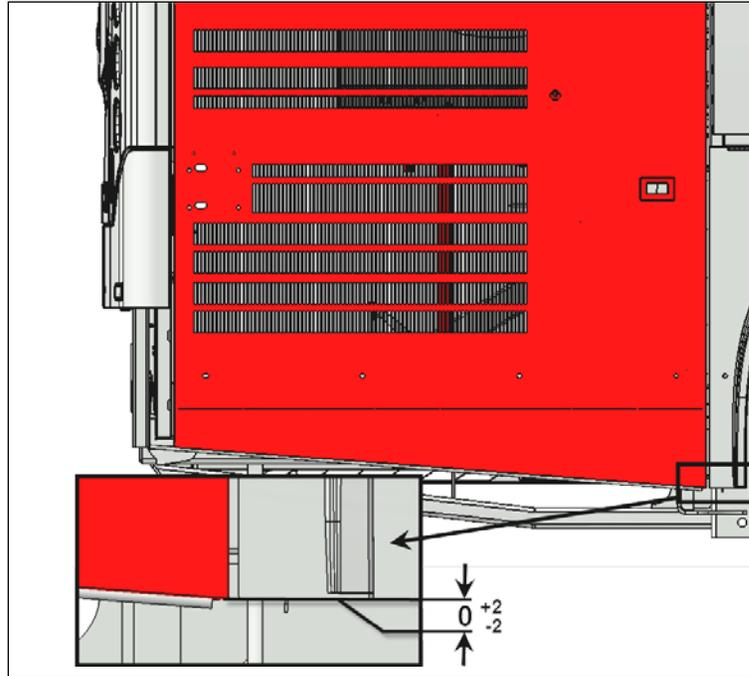

FIGURE 4
3. Compare the lower edge of the door level with the lower edge of the rear fender. The door should be flush with the fender (FIGURE 4).